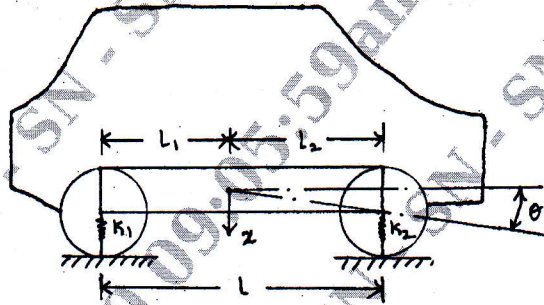

Fig.Q7
- 7 Determine the normal modes of vibration if the automobile is simulated by the simplified two degree of freedom system as shown in Fig.Q7 with the following numerical values: